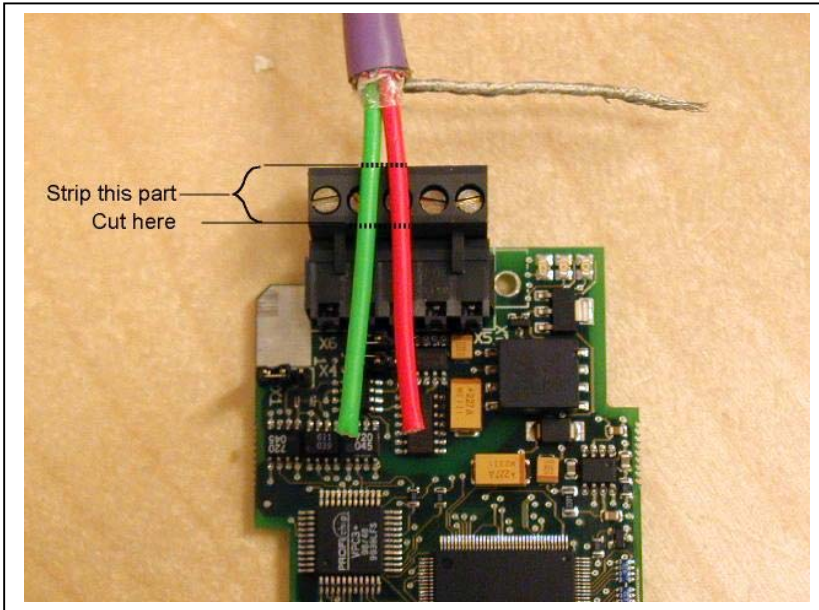
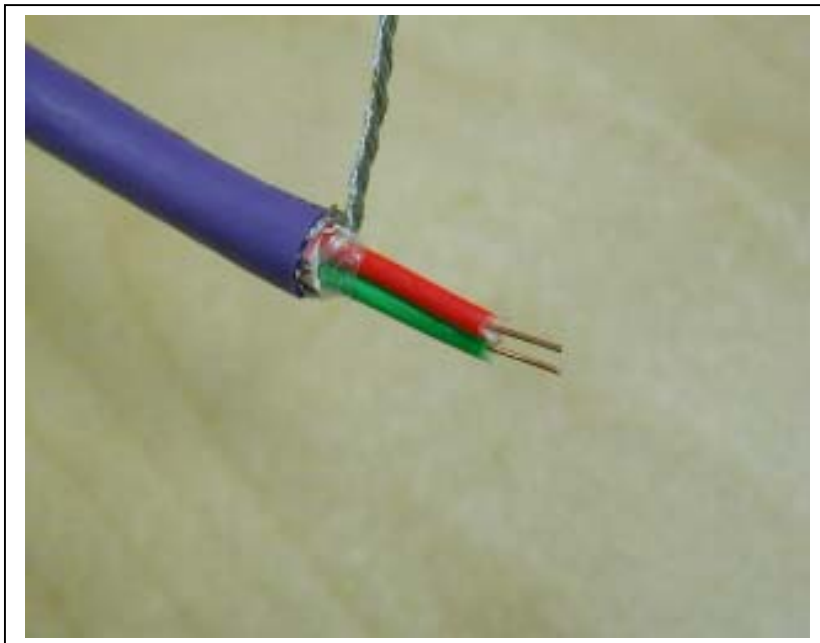

Figure 4-4.
Figure 4-5.
2. Leave no more than 1 cm of the red and green data cable outside the terminal block and strip the data cables at about 0.5 cm to fit in the terminals. See *Figure 4-4* and *Figure 4-5*.